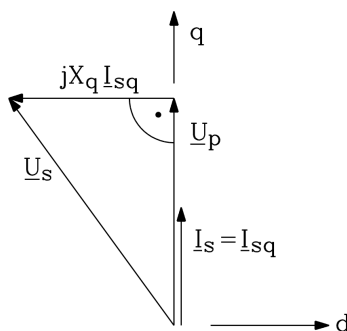

Fig. 3.7-1: Phasor diagram at q -current operation
- 4) Acc. to Fig. 3.7-1 we get: